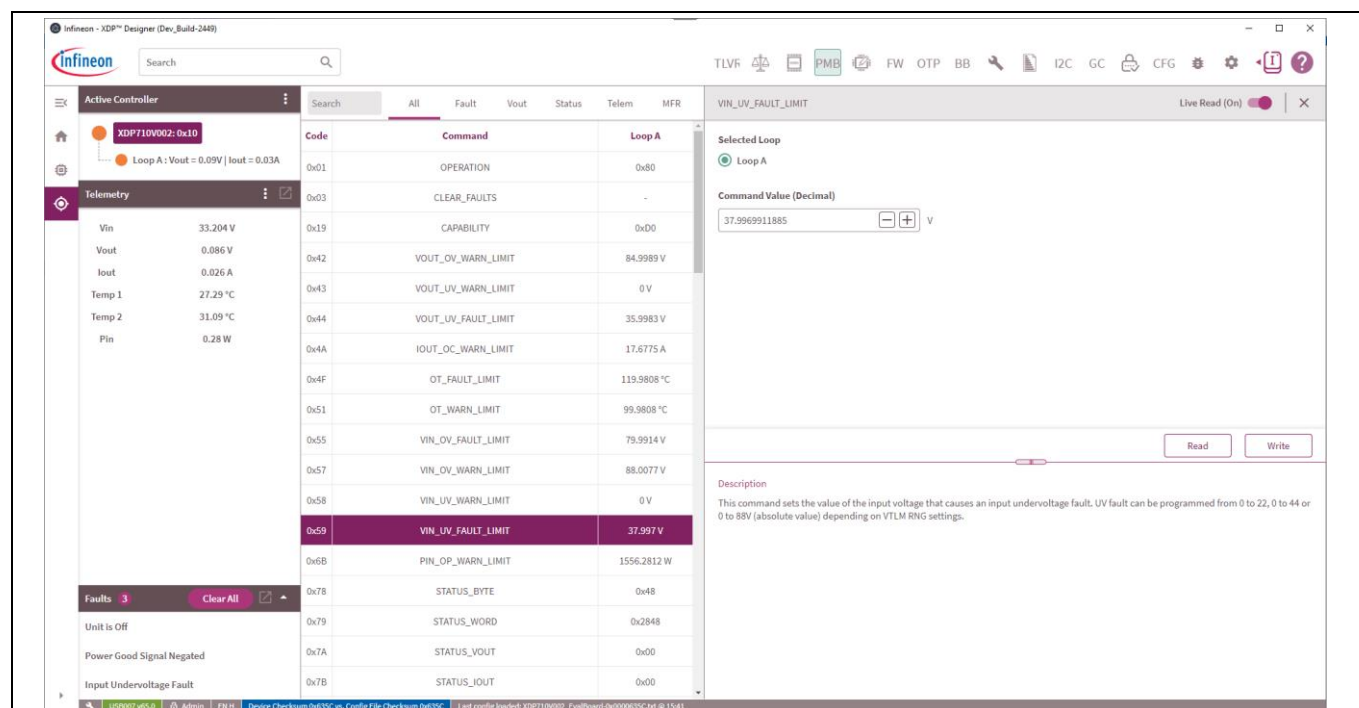

Figure 38 VIN_UV fault triggered
3. Lower input voltage to ~34 V. At this point the FET must be turned off (the gate pin must go down to 0 V), PWRGD LED must be turned off and FAULT (red LED) must be turned on. Also, on the GUI under the “Faults” tab as shown in Figure 38 we can see “Input Undervoltage Fault”, “Power Good Signal Negated” and “Unit is off”.